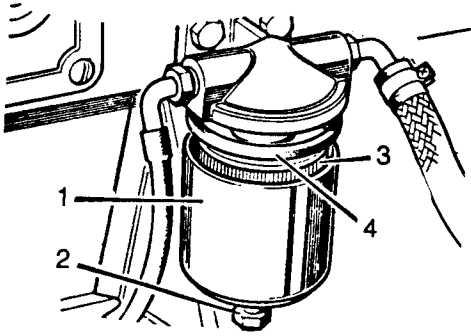

Fig C6.3
- Refer to Fig C6.3. Support the element holder (1).
- Unscrew the special bolt (2) at the bottom of the holder and remove the holder.
- Remove and discard the used element (3).
- Check the upper and lower centre seals and the seal for the special bolt (2). Replace with new seals if any show signs of deterioration or damage.
- Fit the new element, large hole uppermost, into the holder using the seal (4) supplied with the element.
- Place the element holder in position and secure with the special bolt (2).